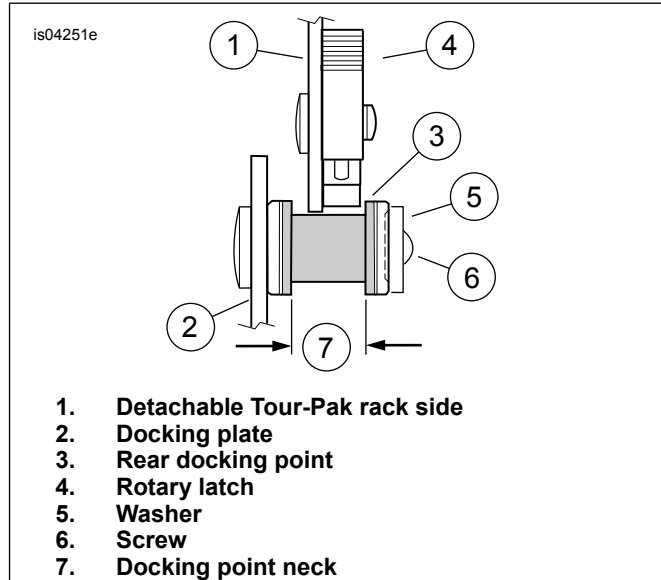

Figure 2. Proper Alignment of Latch in Rear Docking Point, View in Direction of Arrow (E)
2. **ALL installations:** Figure 3 arrow (E) and Figure 2 Position the rotary latches (4) over the rear docking points (3). Check the rack sides (1) and latches fit into the neck (7) of the rear docking points as shown. This may require some gentle squeezing or spreading of the rack sides.
After installing the Tour-Pak rack, check to verify the Tour-Pak and rack are secure. The front and rear docking points must be fully engaged. For correct engagement, Figure 2
E	To front of vehicle (view direction for Figure 2)